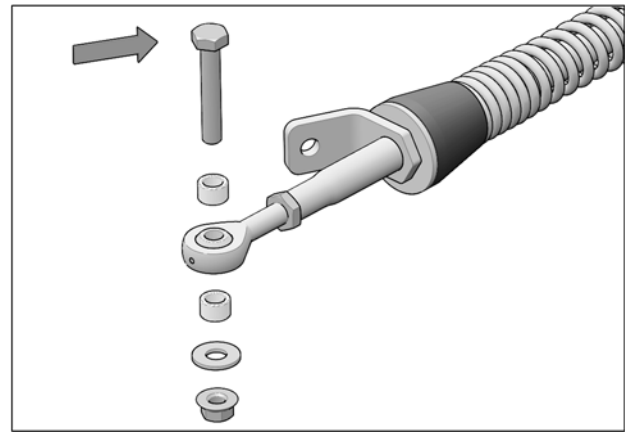

Fig. 9
- Remove bolts, nuts, washers and bushings from front stabilizing rod ends as shown in Fig. 9